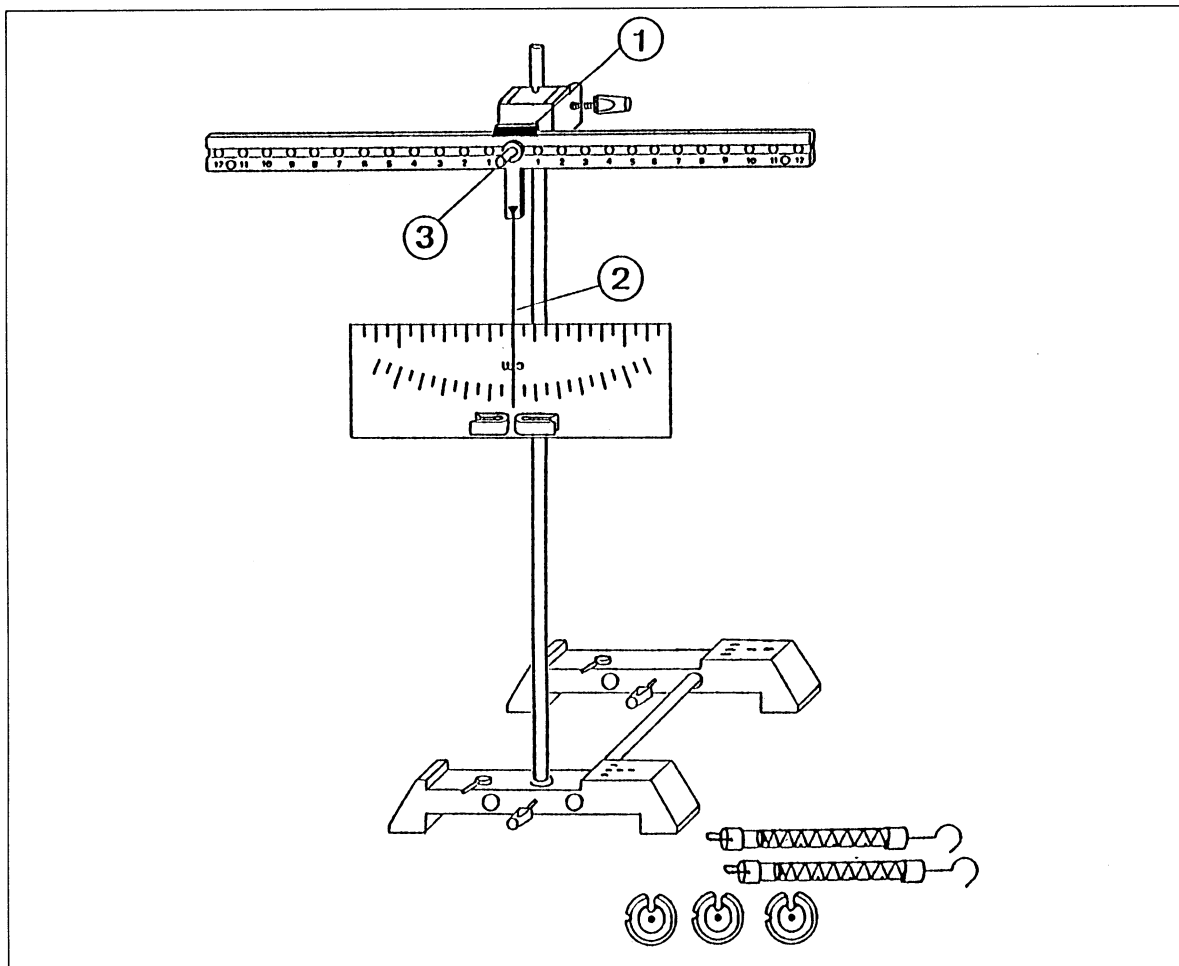

Fig. 1 Setup for experiments using two-sided levers
1. Set up the apparatus as shown in fig. 1. Fasten two sleeve blocks to the vertical stand rod.